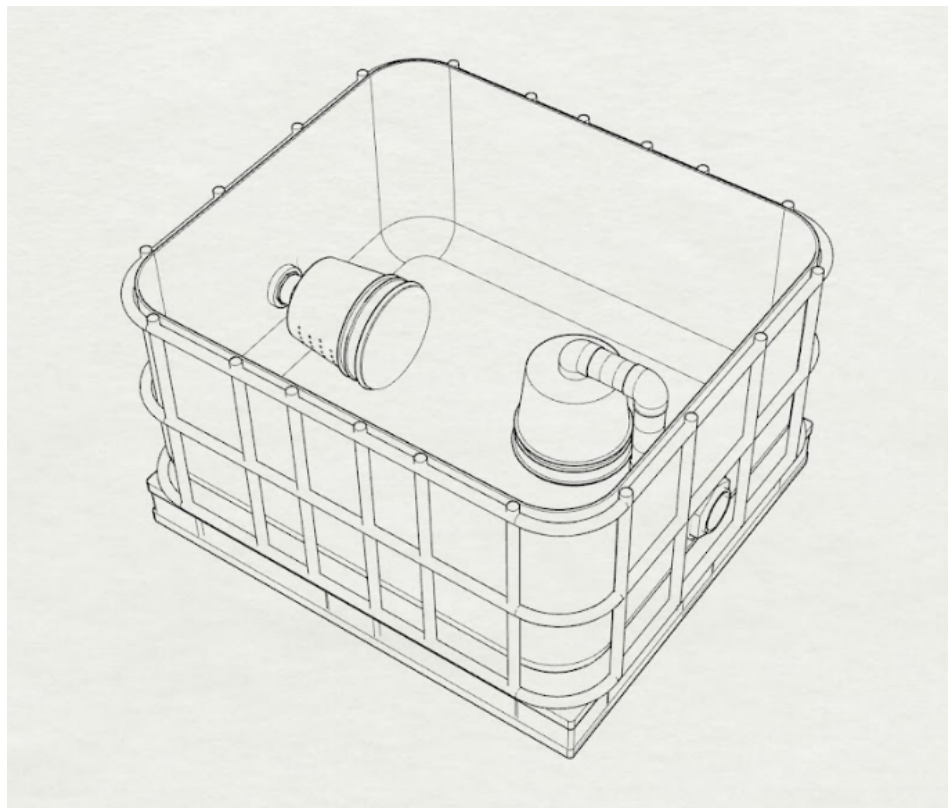

Fig. 4
• Figures 4 - Internal components
Figure 4 diagram shows the outlet piping set on the left, and the inlet piping set on the right. To create the inlet piping, cut four 3½in pieces of 1½in Schedule 40 PVC pipe and four 9in and 3in pieces of 2in Schedule 40 PVC pipe using the chop saw. Use the Oatey Purple Primer first and Red Hot Blue Glue on top and assemble quickly (be sure to wear the disposable nitrile gloves when handling this glue) to connect one of the 3in pieces of PVC to two 2in PVC elbow 90-degree Schedule 40 Slip x Slip creating a U-shape. Afterwards, glue one of the 9in pieces of PVC to one of the elbows already glued to the 3in piece of PVC. Next, glue another 2in PVC elbow 90-degree Schedule 40 Slip x Slip to the bottom of the 9in piece of PVC pipe. Then glue a 2x1½in PVC reducer bushing (Spigot x Slip) to the elbow. Glue one of the 3½in pieces of 1½in Schedule 40 PVC pipe to the 2x1½in PVC reducer bushing (Spigot x Slip) so the entire connected piece creates an S-shape. Then use the Oatey Purple Primer and Red Hot Blue Glue to glue one of the S-shaped inlet pipes directly into the pre-existing valve. If the Clear RTV Silicone sealant is set on the intake holes, you can then install the 2x1½in PVC adapter Schedule 40 MIP x Slip in the 2in FIP poly tank adapters and glue the inlet piping to the 2x1½in PVC adapter Schedule 40 MIP x Slip using the Oatey Purple Primer and Red Hot Blue Glue. Once the glue is set, use the Clear RTV Silicone sealant to ensure the connection is watertight.